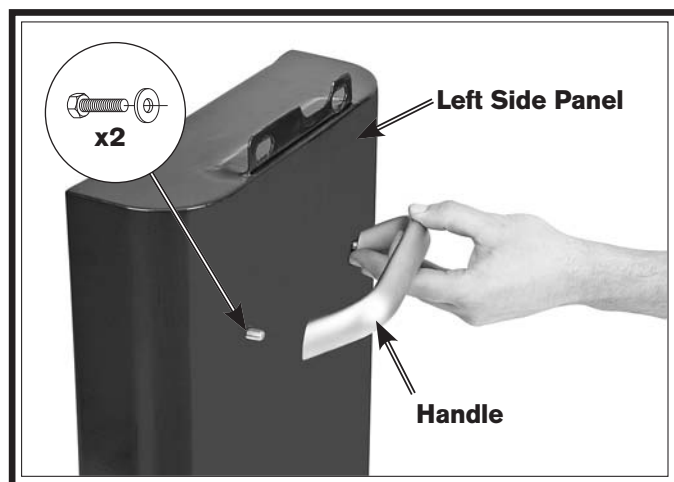

Figure 8. Handle installation.
3. Attach the handle to the left side panel as shown in **Figure 8** with two M8-1.25 x 15 hex bolts and 8mm flat washers.